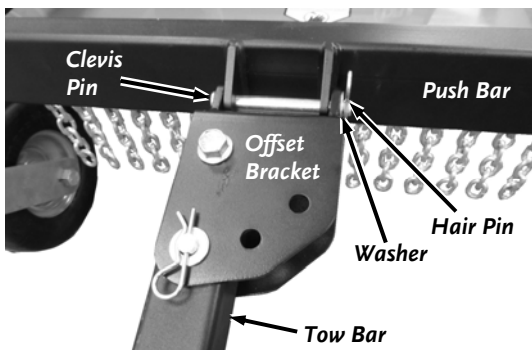

Figure 31
2. Support the Tow Bar as you remove the Hair Pin, Washer and Clevis Pin that secures the Offset Bracket to the Push Bar (**Figure 31**).